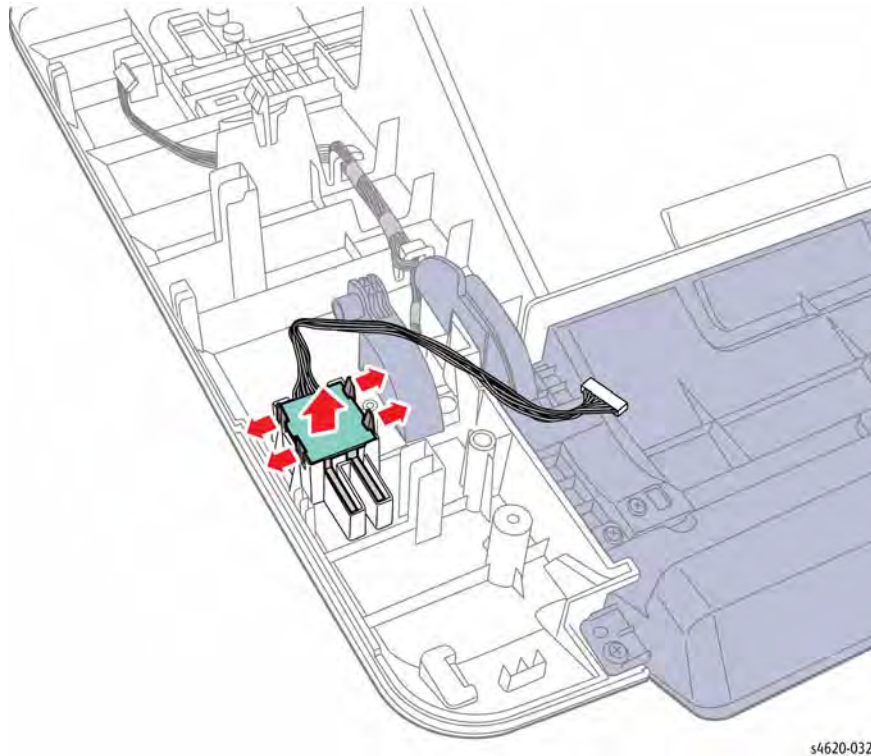

Figure 1 Remove the Interlock Switch
7. Turn the cover over and release 4 hooks that secure the switches to the cover, Figure 1.